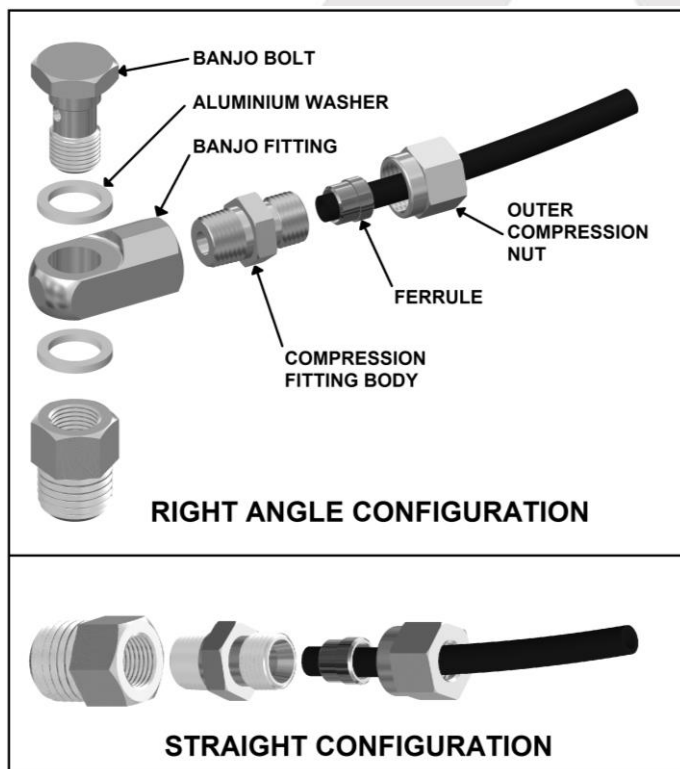

Figure 17.
- ☐ Assemble an aluminium washer onto the banjo bolt and insert through the banjo fitting. Assemble second aluminium washer and tighten into bulkhead fitting using a 14mm [9/16"] spanner. (Fig.17.)
- ☐ Insert the outer compression nut and ferrule over the air line. Ferrule should be orientated as per Fig.17.
NOTE : When right angle routing of the tube is not required, screw the compression fitting body straight into the bulkhead fitting body (Fig.17.).